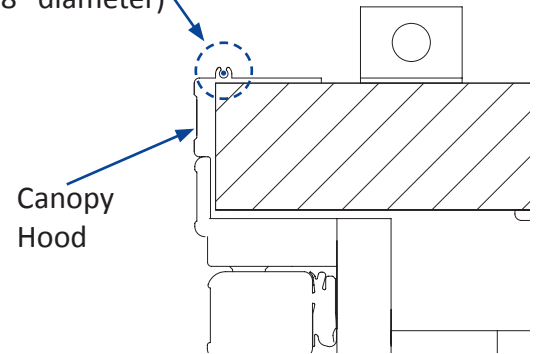

Fig 4. Alignment Rod Location
- Insert the alignment rod (1/8in diameter) through holes in canopy hood as shown Fig. 4